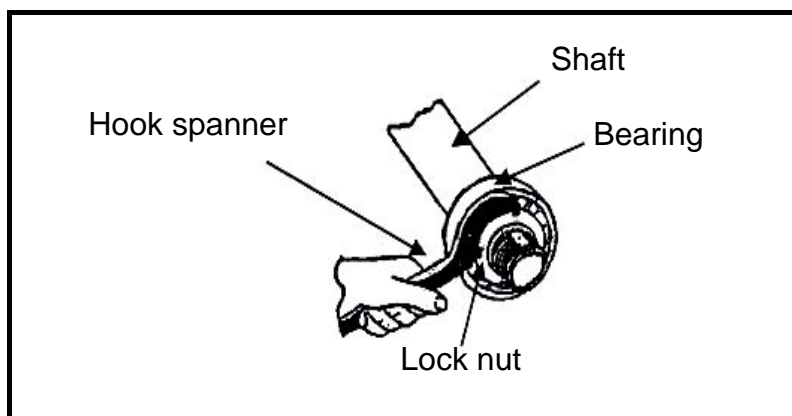

FIGURE 1.1
- 1.1 FIGURE 1.1 shows a way to remove a bearing from a shaft using a hook spanner. Which step of the safe work procedure does the figure show?